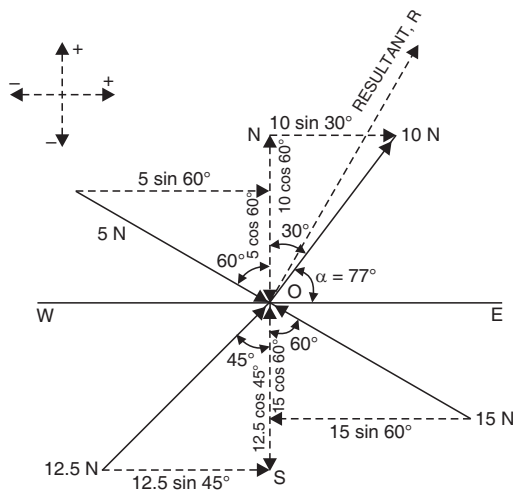

Fig. 2.23
**Sol.** The various forces acting at a point are shown in Fig. 2.23.